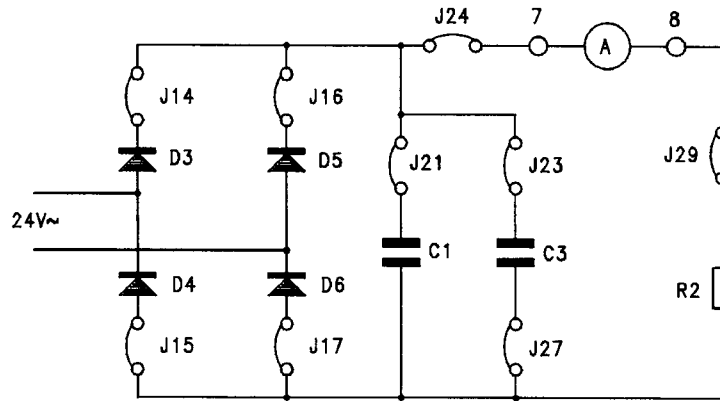

fig. B05.11
- Connect jumpers J14, J16, J24, J29, J27, J17, J15, and the ammeter to produce the circuit of figure B05.11 (a Graetz or bridge rectifier)